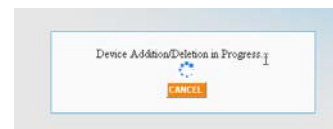

Fig. 11: Linking Progress Window
2. Press “OK” on the next confirmation box or press “Cancel” to stop the process. EZSrv proceeds to display the “Device Addition/Deletion in Progress” message (see Fig. 11).EZSrv queries the INSTEON device via its ID and proceeds to electronically establish the required links on